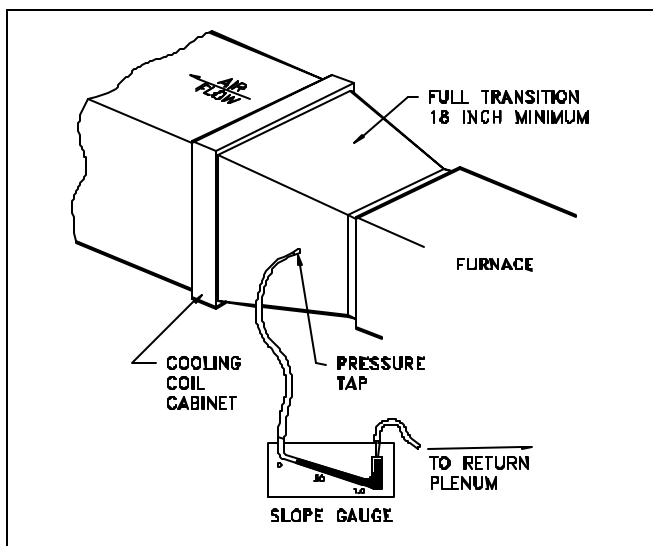

Figure 32. Measuring Duct System Static Pressure.
7. Insert one static pressure tap into supply air transition duct between furnace and cooling coil or in the supply air plenum for heating only systems. Connect this pressure tap to positive pressure side of slope gauge. See Figure 32.
8. Insert other static pressure tap in return air plenum. Connect this pressure tap to negative pressure side of slope gauge. See Figure 32.